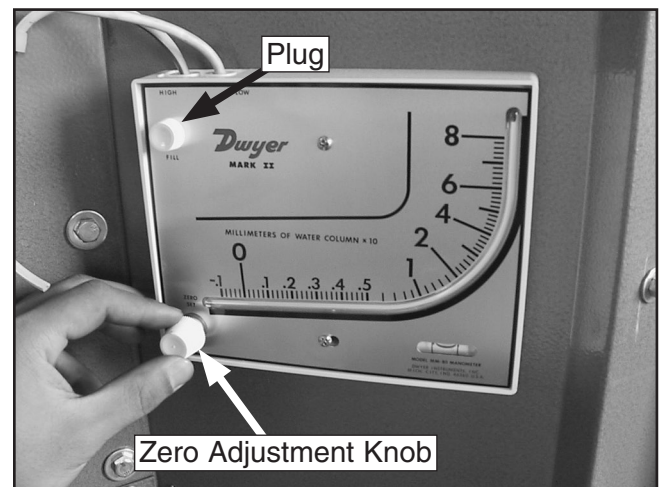

Figure 27. Air filter indicator controls.
4. Rotate the zero adjustment knob counter-clockwise (**Figure 27**) until it stops, then turn it clockwise three turns.
5. Remove the plug (**Figure 27**) and fill the chamber with the included red gauge oil until the fluid level reaches zero on the indicator. Minor fluid level adjustments can be made using the zero adjustment knob.